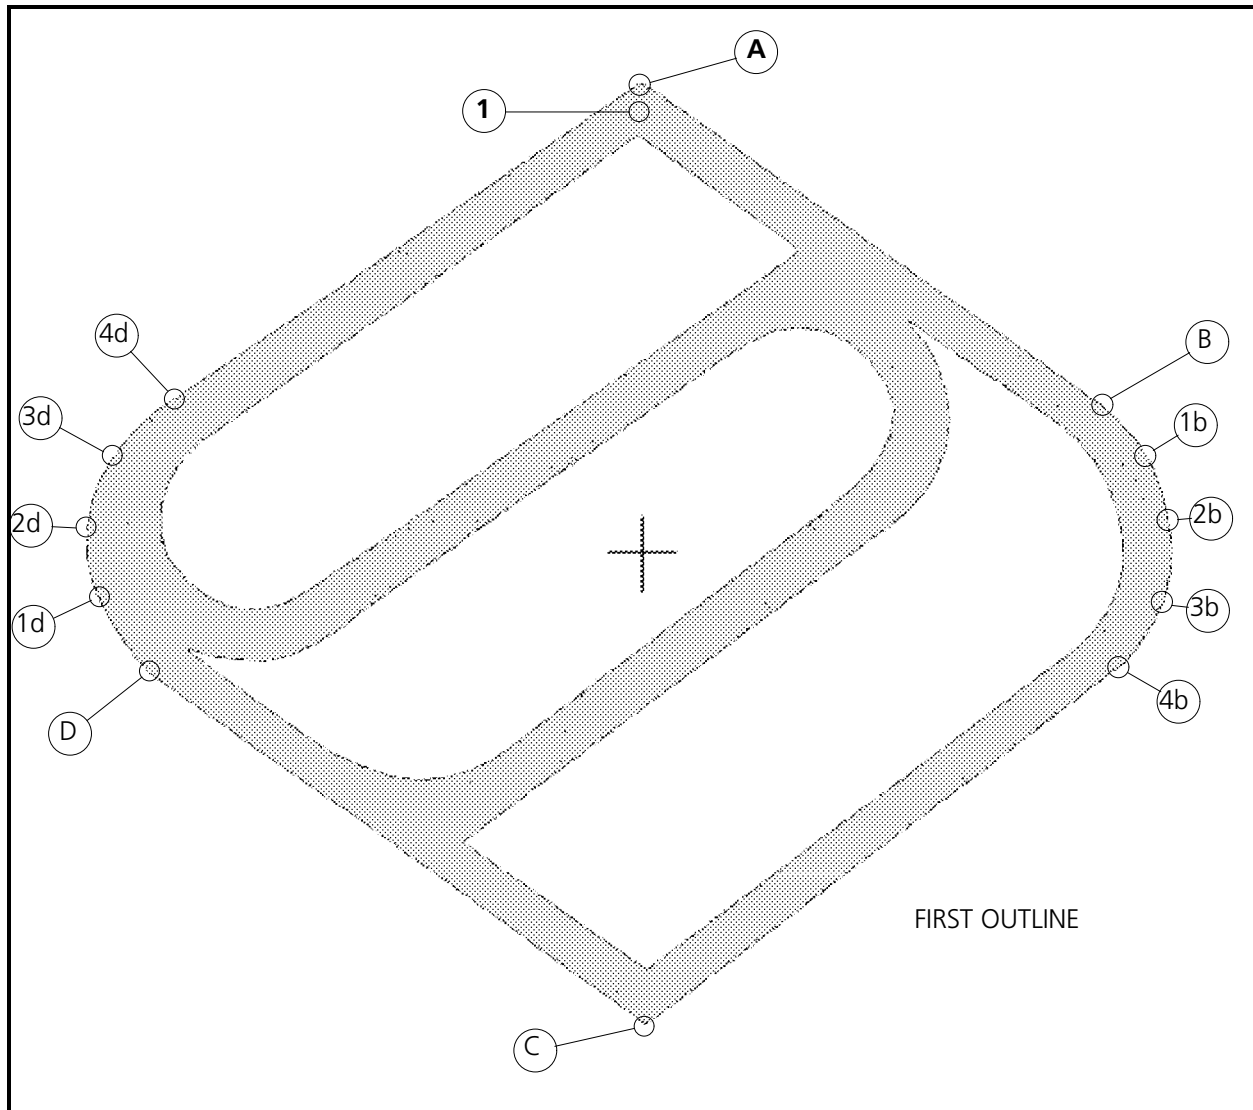

Figure 6-81
2. Click in the area in the shape identified as location 1 in Figure 6-81 and enter a Mk1.
4. Generate the lock stitches at location 1 in Figure 6-81.
1. Enter a Mk1 in the very top of the design shown as item A in Figure 6-81.
2. Enter another Mk1 at approximately point B in Figure 6-81.
3. Now digitize around the curve of the design on the right edge with Mk4s at the approximate locations 1b through 4b as shown in Figure 6-81.
4. Enter another Mk1 at point C on the very bottom corner of the design as shown in Figure 6-81.
5. Enter another Mk1 at point D with Mk4s around the curve of the left edge of the design in the approximate locations shown as 1d through 4d in Figure 6-81.